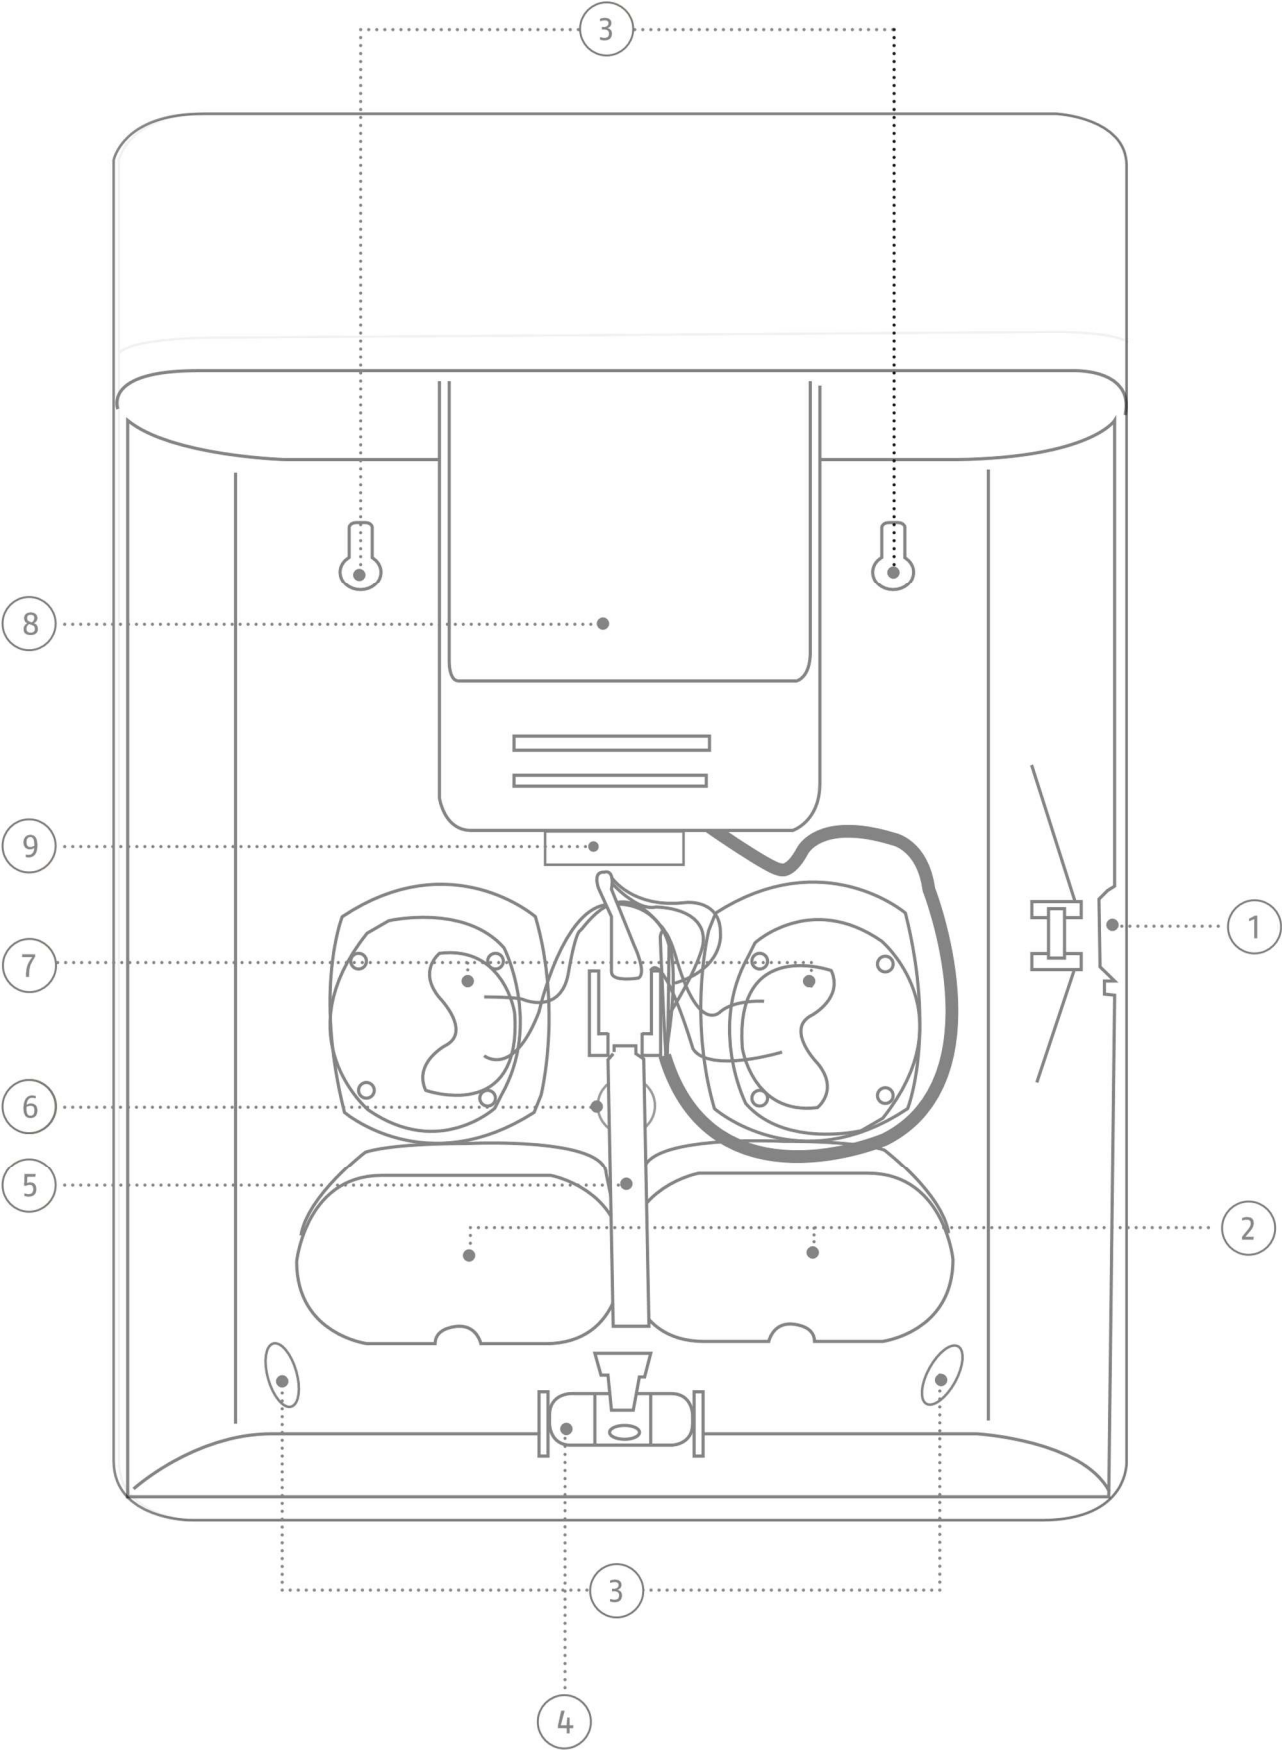

Figure 1: Overview of the sounder
- Open the cover for the lid-fixing screws on the right side (see Fig. 1).